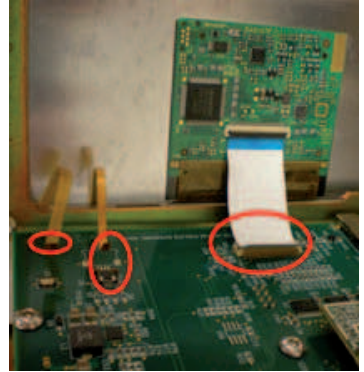

Figure 159 - Screen-Circuit Board Connectors (3)
9. Carefully remove the three circuit board connectors (Figure 159).